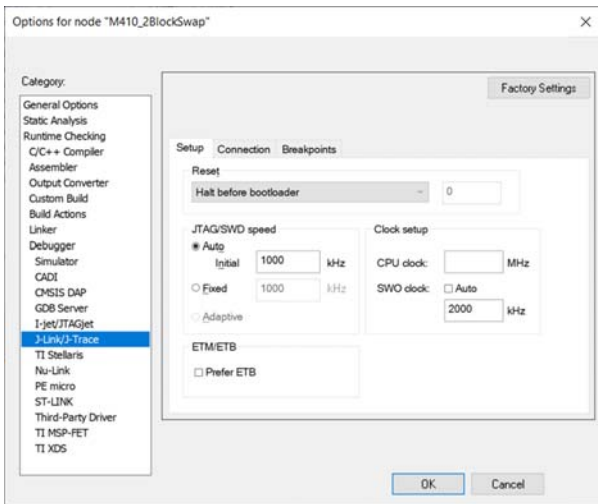

Figure 16. J-Link/J-Trace Settings
5. Check that the J-Link/J-Trace settings in the Setup tab match those as shown in Figure 16.